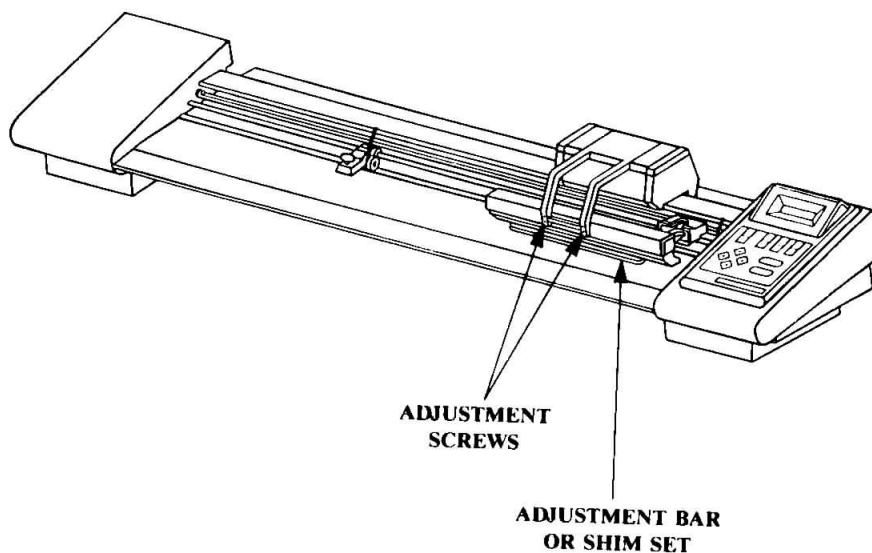

FIGURE 11-5. PEN CHANGER ADJUSTMENT
2. Set the plotter power switch to ON (1).
3. Loosen the four pen stable adjustment screws (see Figure 11-5).